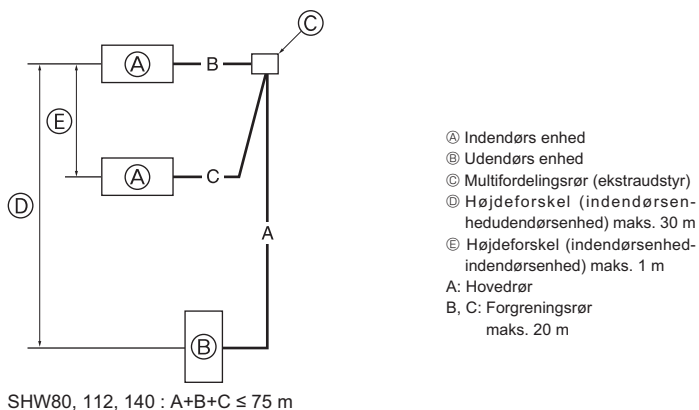

Fig. 4-10
4.8. For dobbelt/tredobbelt/firdobbelt kombination (Fig. 4-10)